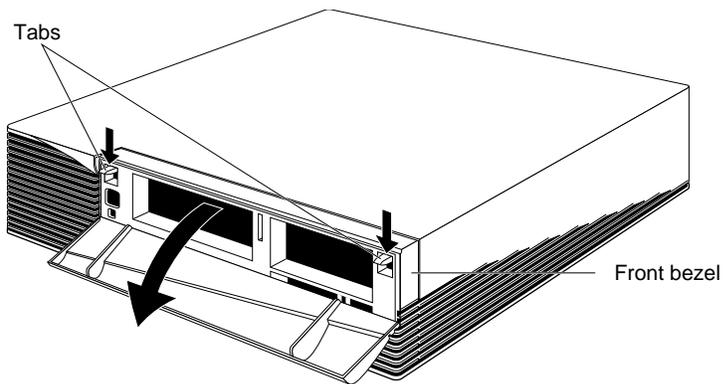

Figure 3 Removing the front bezel from the Indigo² chassis.
- Press down on the tabs on each side of the bezel, as shown in Figure 3.